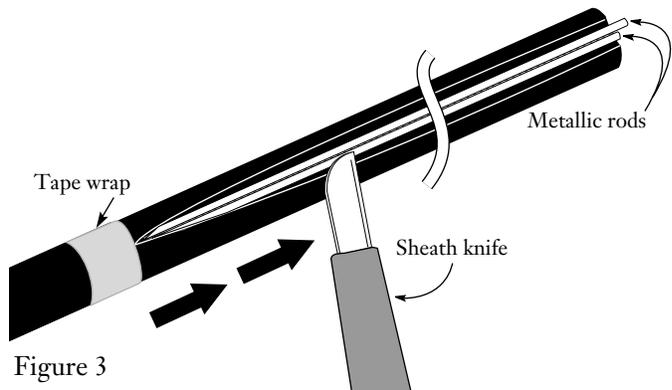

Figure 3
4.2 Starting at the the tape wrap, use a sheath knife or utility knife with a straight blade to shave off the sheath directly over the steel rods (Figure 3). Shave the outer sheath off both sets of rods for the entire strip length, as determined in step 4.1.